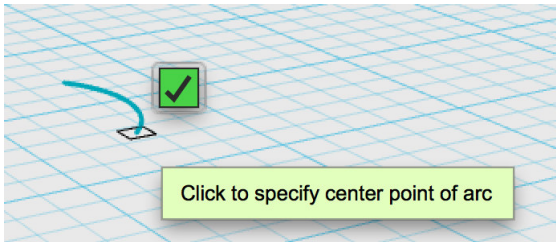

Figure 4-64 The center of the arc of two points
3. Click once where you'd like the center of your arc to be (Figure 4-64).